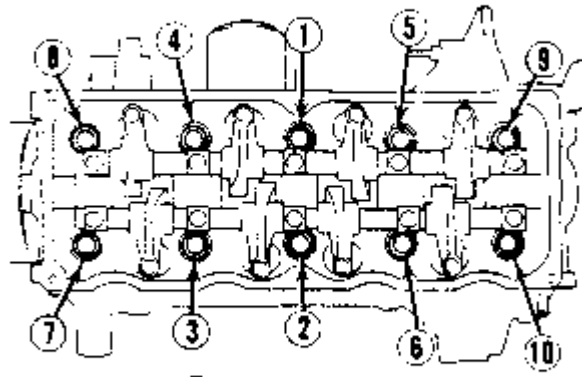

Fig. 1: Installing Cylinder Head Bolts (1.3L)
1. Place new head gasket properly on block. Carefully place cylinder head in position on block. Install head bolts. Tighten bolts in sequence and in 2 steps. See Fig. 1.